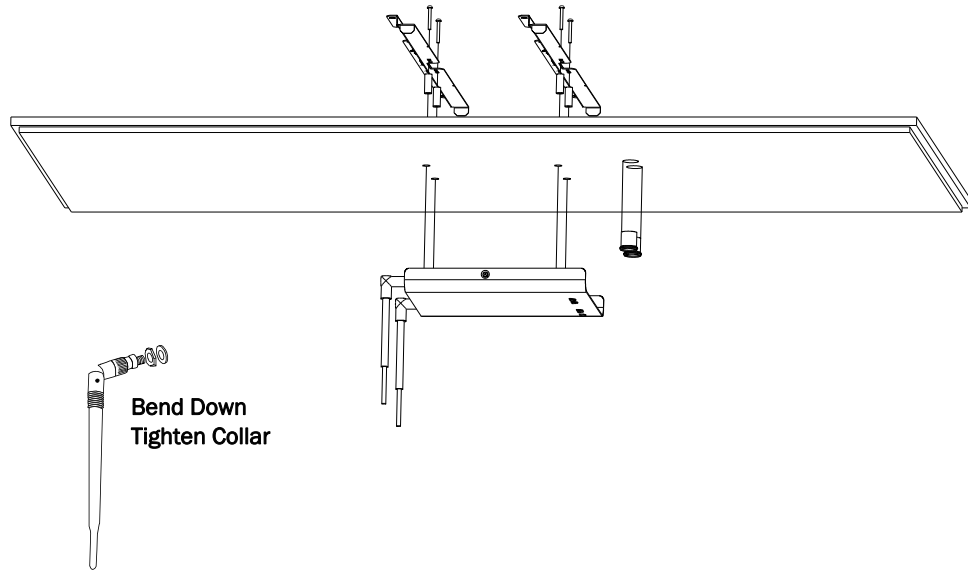

Figure 2-12: Mounting the Core AP Below a Ceiling Tile (Fixed Mount)
7. Insert the four (4) M3-.5 X 30 lobe screws into the Core AP mounting rail holes, through the provided plastic spacers, through the tile, and into the mating holes in the back of the Core AP as shown in Figure 2-12. Torque-tighten each screw to 8-inch lbs.